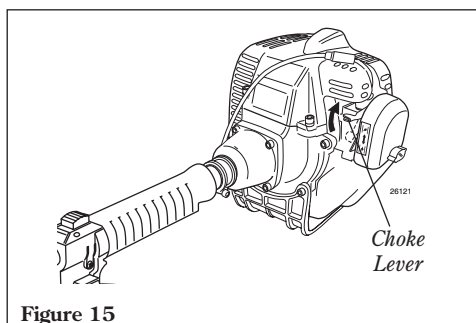

Figure 15
4. Set the choke lever to the CLOSED position if the engine is cold. See Figure 15.